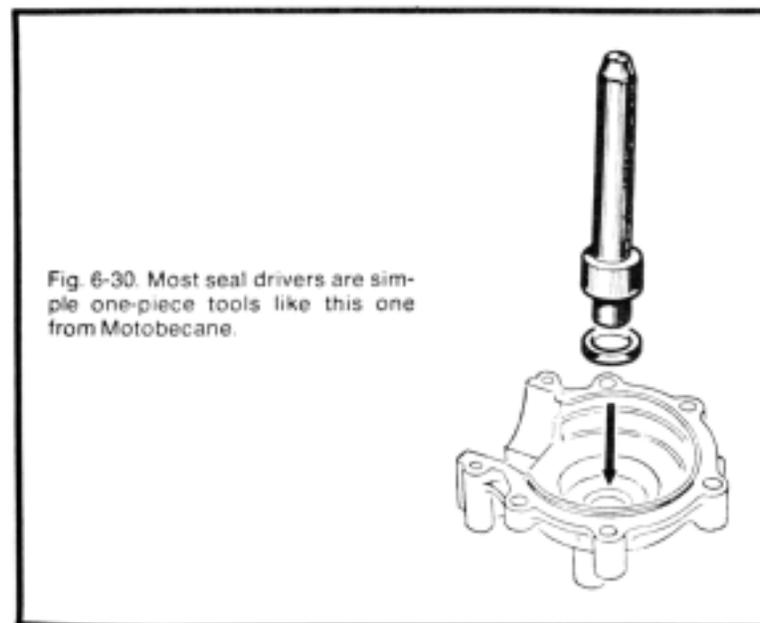

Fig. 6-30. Most seal drivers are simple one-piece tools like this one from Motobecane.
**Seals.** New seals must be installed each time the cases are opened. Pry out the old ones with a screwdriver, being careful not to scratch the seal bosses. Seals are installed with the cupped side outboard, away from crankcase pressure. Factory code numbers are on the side from which the seal is driven. Seal drivers exist and should be used whenever possible. Figure 6-29 shows a collection of Peugeot drivers and pilots for the right- and left-hand cases. A more typical driver is shown in Fig. 6-30.